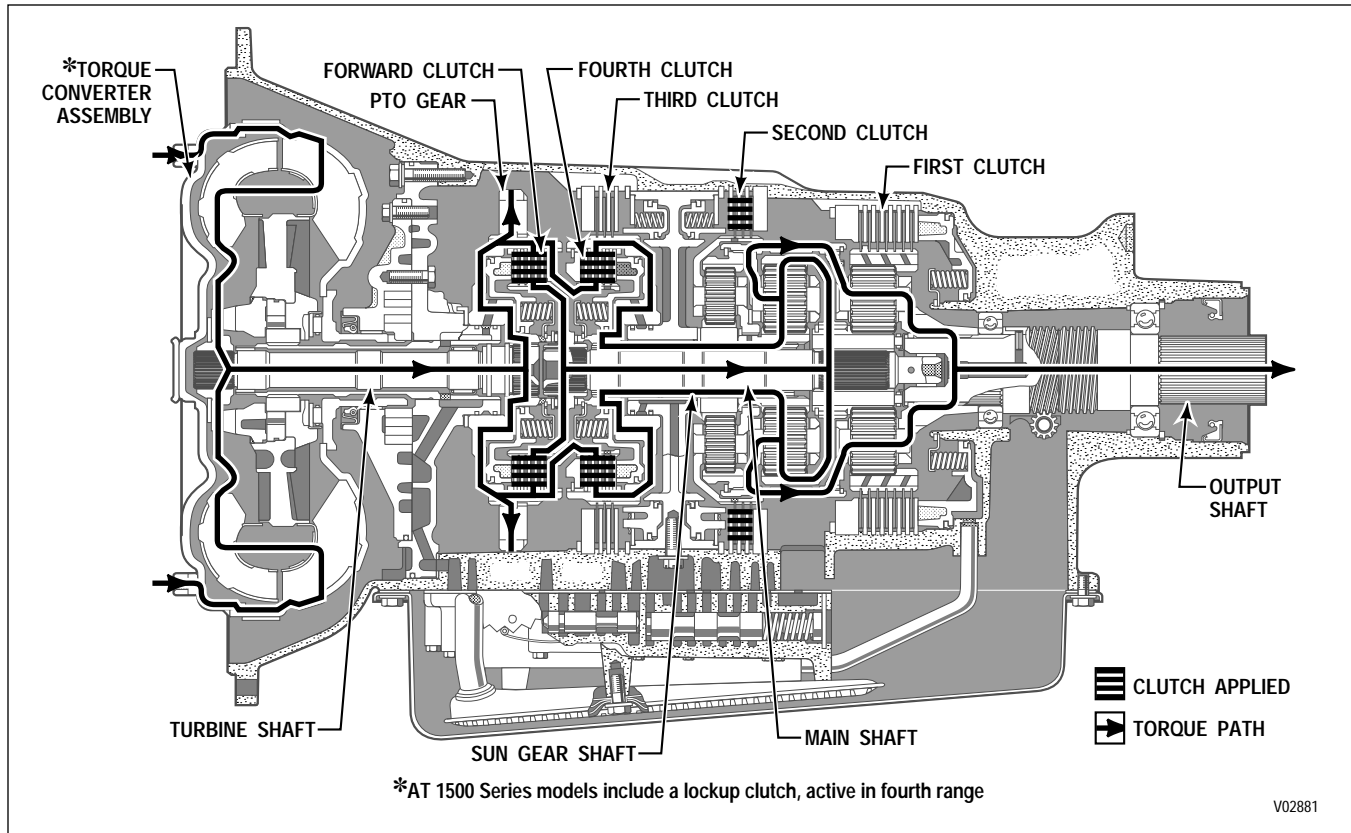

Figure 2-5. Fourth Range Power Flow
h. Fourth-Range Operation (*Figure 2-5*). The forward and fourth clutches are applied. With the clutches applied, the transmission main shaft and the sun gear shaft are locked together and rotate as a unit at turbine speed. With the center and rear sun gears rotating at the same speed and their carriers splined to the planetary connecting drum, all components rotate at turbine output speed. The transmission output shaft